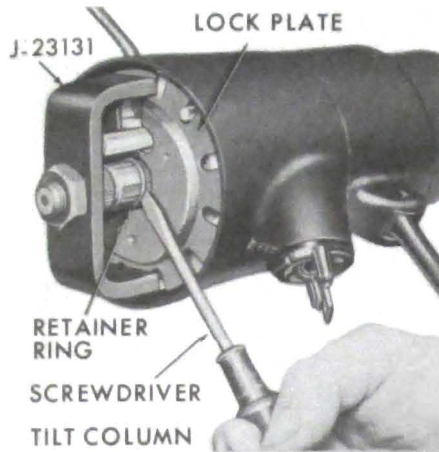

Figure 90-104 Removing Lock Plate Retainer Ring
3. Depress lock plate using tool J-23131 and the steering wheel nut. Pry the round wire snap ring out of the shaft groove and discard ring. Remove the snap ring and shaft lock plate. See Figure 90-104.